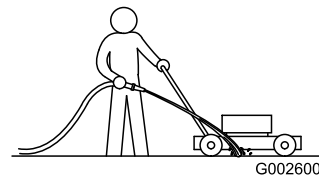

Figure 24
1. With the engine running on a flat paved surface, spray a stream of water in front of the **right** rear wheel (Figure 24).